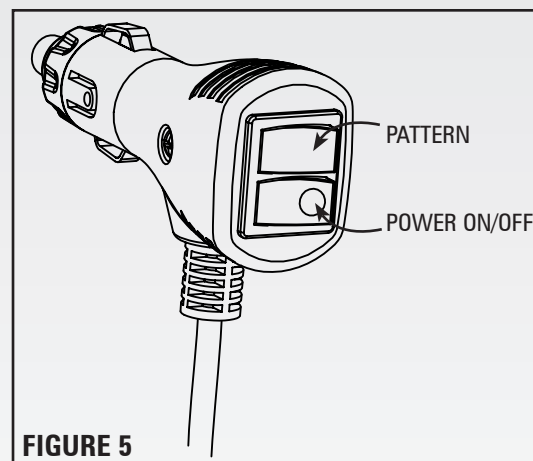

FIGURE 5
CIG PLUG OPERATION (Figure 5)
1. See Figure 5 (below) for Power ON/OFF switch and Pattern SELECT switch.
3. To change the flash pattern press and hold the PATTERN switch for one to two (1-2) seconds until you see the lightbar flash the new pattern. The lightbar will advance one (1) flash pattern and flash the new pattern each time this is done.